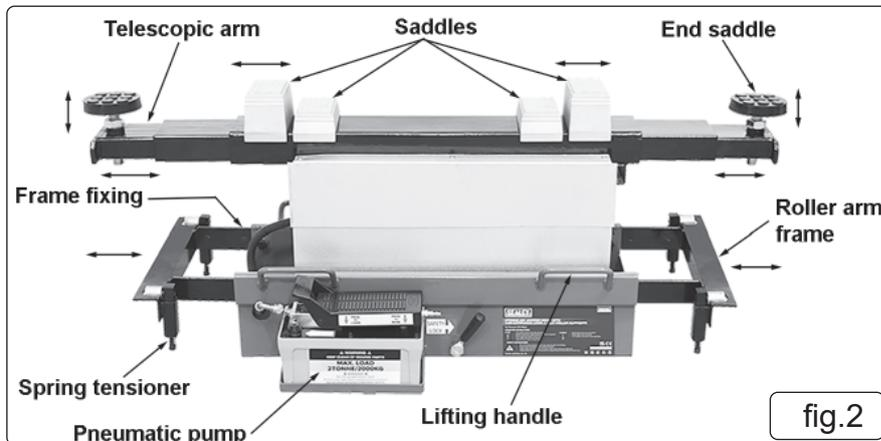
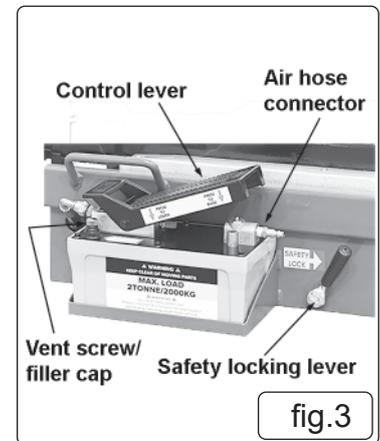

fig.2
fig.3
4.2.1. Lift the jacking beam into place by using the lifting handles (fig 2).
4.2.2. Loosen the roller arm frame fixings, on both sides (fig 2), and extend the roller arm frames (fig 2) outwards, equally each side, to the correct width to suit the ramp or pit runners. Re-tighten fixings.
4.2.3. Adjust the spring tensioner (fig 2) on all four rollers so the rollers will just support the weight of the jacking beam on it's own and allow the jacking beam to travel freely along the ramp or pit.
4.3.2. Loosen the roller arm frame fixings (fig 2), both sides, and withdraw the roller arm frames (fig 2) from the jacking beam main frame.
- WARNING!** Before operating the pump slacken the vent screw/filler cap (fig 3) by turning it counter clockwise.
- 5.1.1.** As an extra safety feature the jacking beam has two locking positions, controlled by the safety locking lever (fig 3).
- 5.1.3.** To lower the jacking beam beyond these points, raise the jacking beam slightly, by pressing the right hand end of the control lever (fig 3). Turn the safety locking lever (fig 3) clockwise. Then press the left hand end of the control lever (fig 3), to fully lower the jacking beam (fig 4).
- 5.2.1.** Raise the ramp or pit inspection runners to the desired height (fig 2).
- 5.2.4.** Determine which saddle pair combinations are best suitable for the application, saddles or adjustable end saddles (fig 2).
NOTE: The end saddles can be adjusted, up or down to suit (fig 2).
- 5.2.5.** Adjust the telescopic arms (fig 2) to line up the saddles (fig 2) with the jacking points of the vehicle (fig 6).
- 5.2.7.** Attach the airline hose to the connector (fig 3) on the pneumatic pump (fig 2).
- 5.2.8.** Raise the jacking beam in short increments by pressing the right hand end of the control lever (fig 3).
- WARNING!** Ensure the locking lever is engaged (fig 3).
- 5.2.14.** With the assistance of another person remove the jacking beam, using the lifting handles (fig 2), from the pit or inspection runners and store in a safe, clean, dry location.